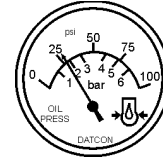

Figure 47. Oil Pressure Gauge
8. The engine oil pressure gauge (Figure 47) will indicate the oil pressure of the engine. Under normal operating conditions the oil pressure is approximately 42 to 71 psi. (290~490 kPa).